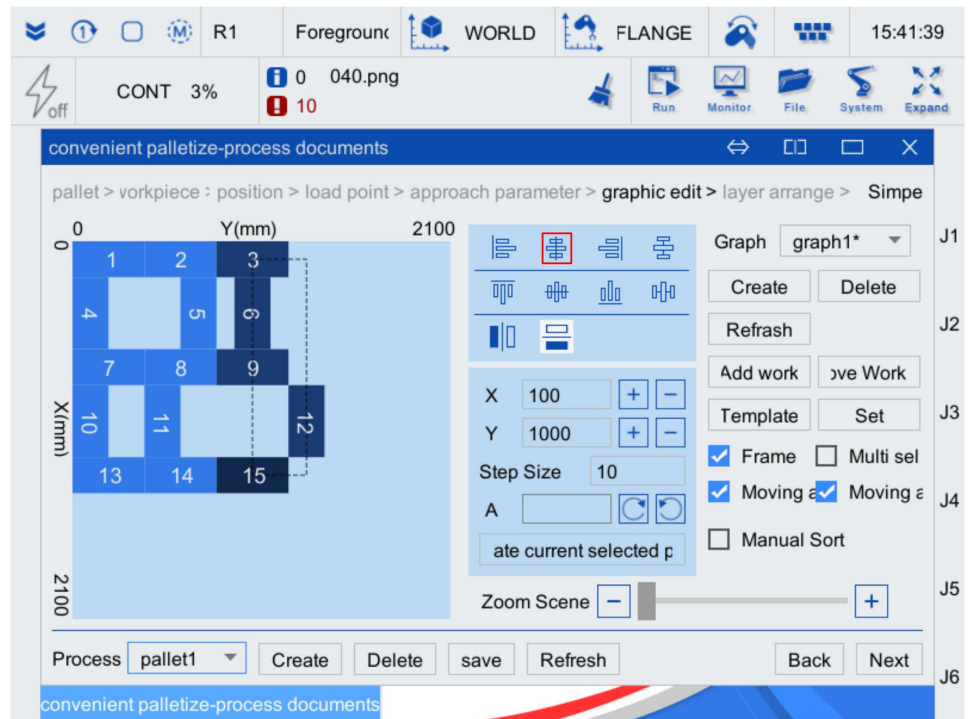

Figure 3-23 Diagram of frame selection effect
Step6. At the same time, frame select (or multiple select) workpieces 2, 5, 8, 11 and 14 (as shown in Figure 3-23), and click the  to align them in the center.